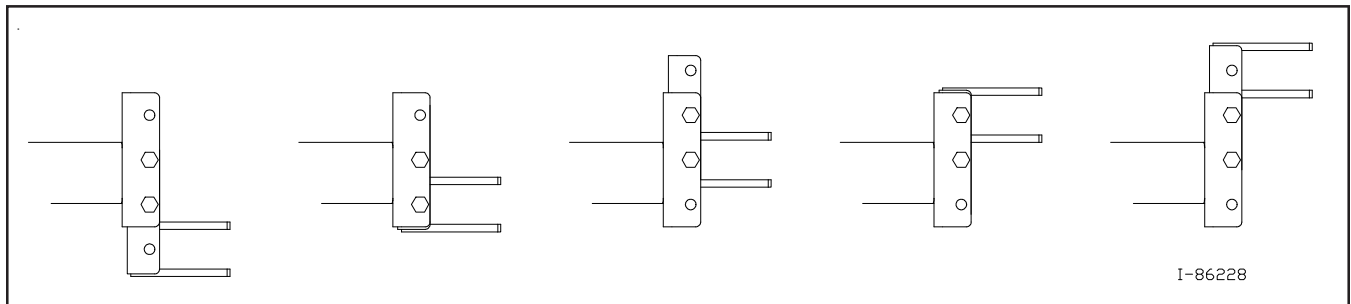

Figure 2A - Adjusting the Hitch Position
2. Refer to Figure 2A. Determine the spreader hitch position required to allow the spreader to remain parallel to the ground with relation to the towing vehicle.
NOTE: As shown in Figure 2A, the adjustable hitch on the front of the spreader may be positioned in a number of ways, by sliding up/down or inverting, to achieve a higher or lower positioning of the spreader hitch.